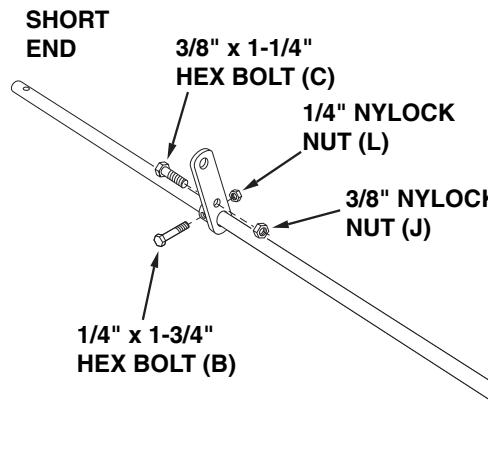
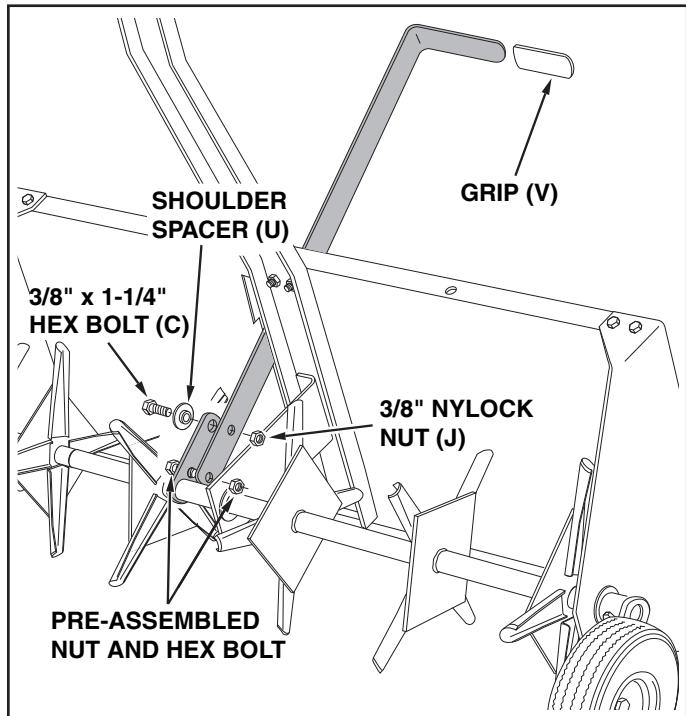

FIGURE 3
FIGURE 12
5. Assemble a wheel bracket to the middle hole in the shaft so that the bracket hub faces the short end of the shaft. Fasten the bracket to the shaft using a 1/4" x 1-3/4" hex bolt and a 1/4" nylock nut. **Tighten.** See figure 3.
6. Pre-assemble a 3/8" x 1-1/4" hex bolt and 3/8" nylock nut to the smaller hole in the wheel bracket. Insert the bolt from the hub side of the bracket. **Do not tighten till step 18.** See figure 3.
18. Place the lift handle through the slot in the tray. Fasten the lift handle to the smaller hole in the middle wheel bracket using the bolt and nylock nut which you assembled earlier (figure 3). Fasten the lift handle to the larger hole in the wheel bracket using a 3/8" x 1-1/4" hex bolt, the shoulder spacer, and a 3/8" nylock nut. **Tighten.** See figure 12.
19. Push the grip onto the lift handle. See figure 12.